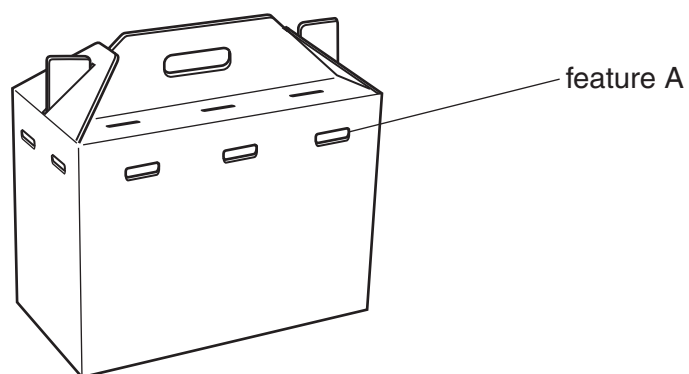

Fig. 7
- 19 Fig. 7 shows a box used for transporting small pets. The box is made from corrugated card.